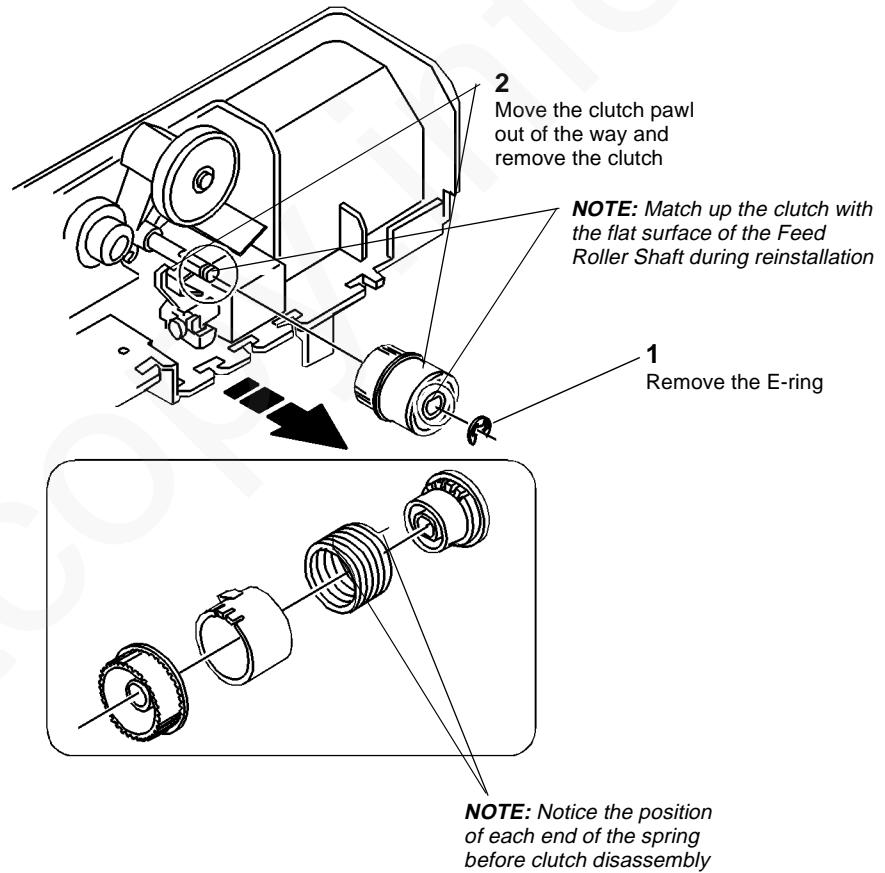

Figure 3 Removing the Paper Feed Clutch
3. (Figure 3): Remove the Paper Feed Clutch.